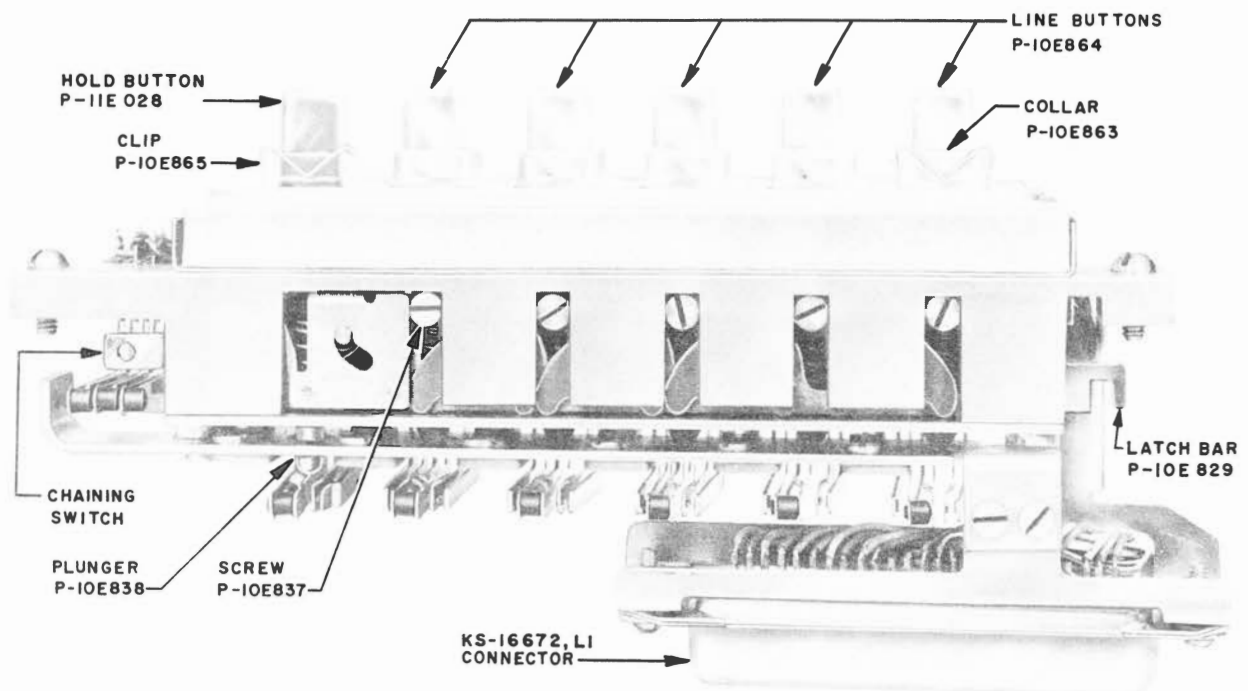

Fig. 4 — 599A Key
**3.05** The 599A key module (see Fig. 4) is the same design as the 598A with the following exceptions: